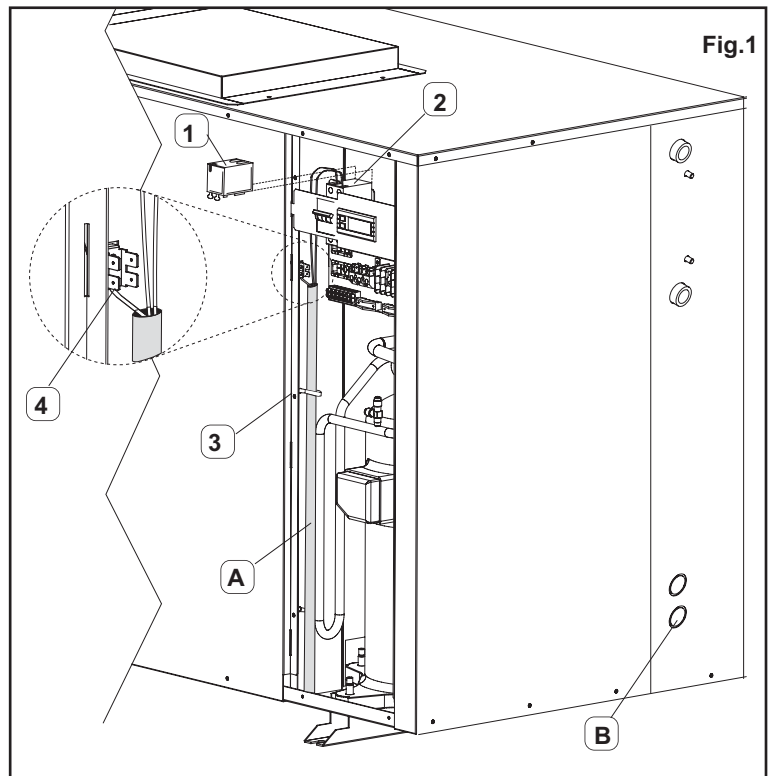

Fig.1
- Route the powering line inside the unit (Fig. 1-A) through one of the holes in its structure (Fig. 1-B).